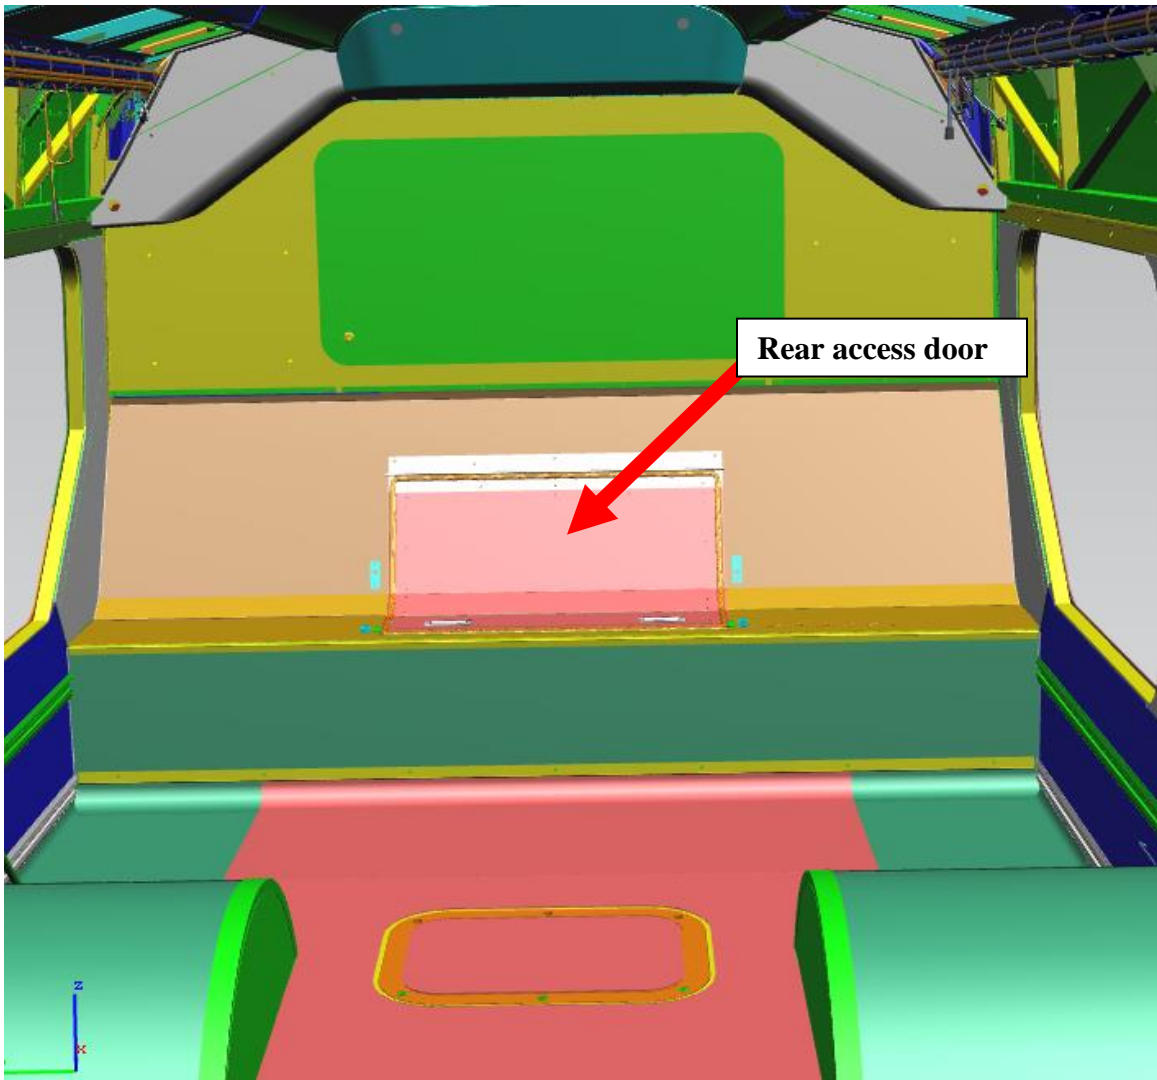

Figure 2: Rear interior of bus
2. Open rear access panel to access engine compartment. See figure 2.